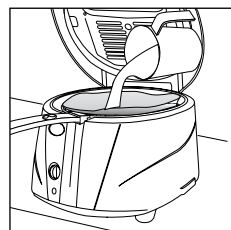

fig. 8
4. Next pour the oil or fat very slowly into the deep fryer so that it does not spill out of the filter (fig. 8).